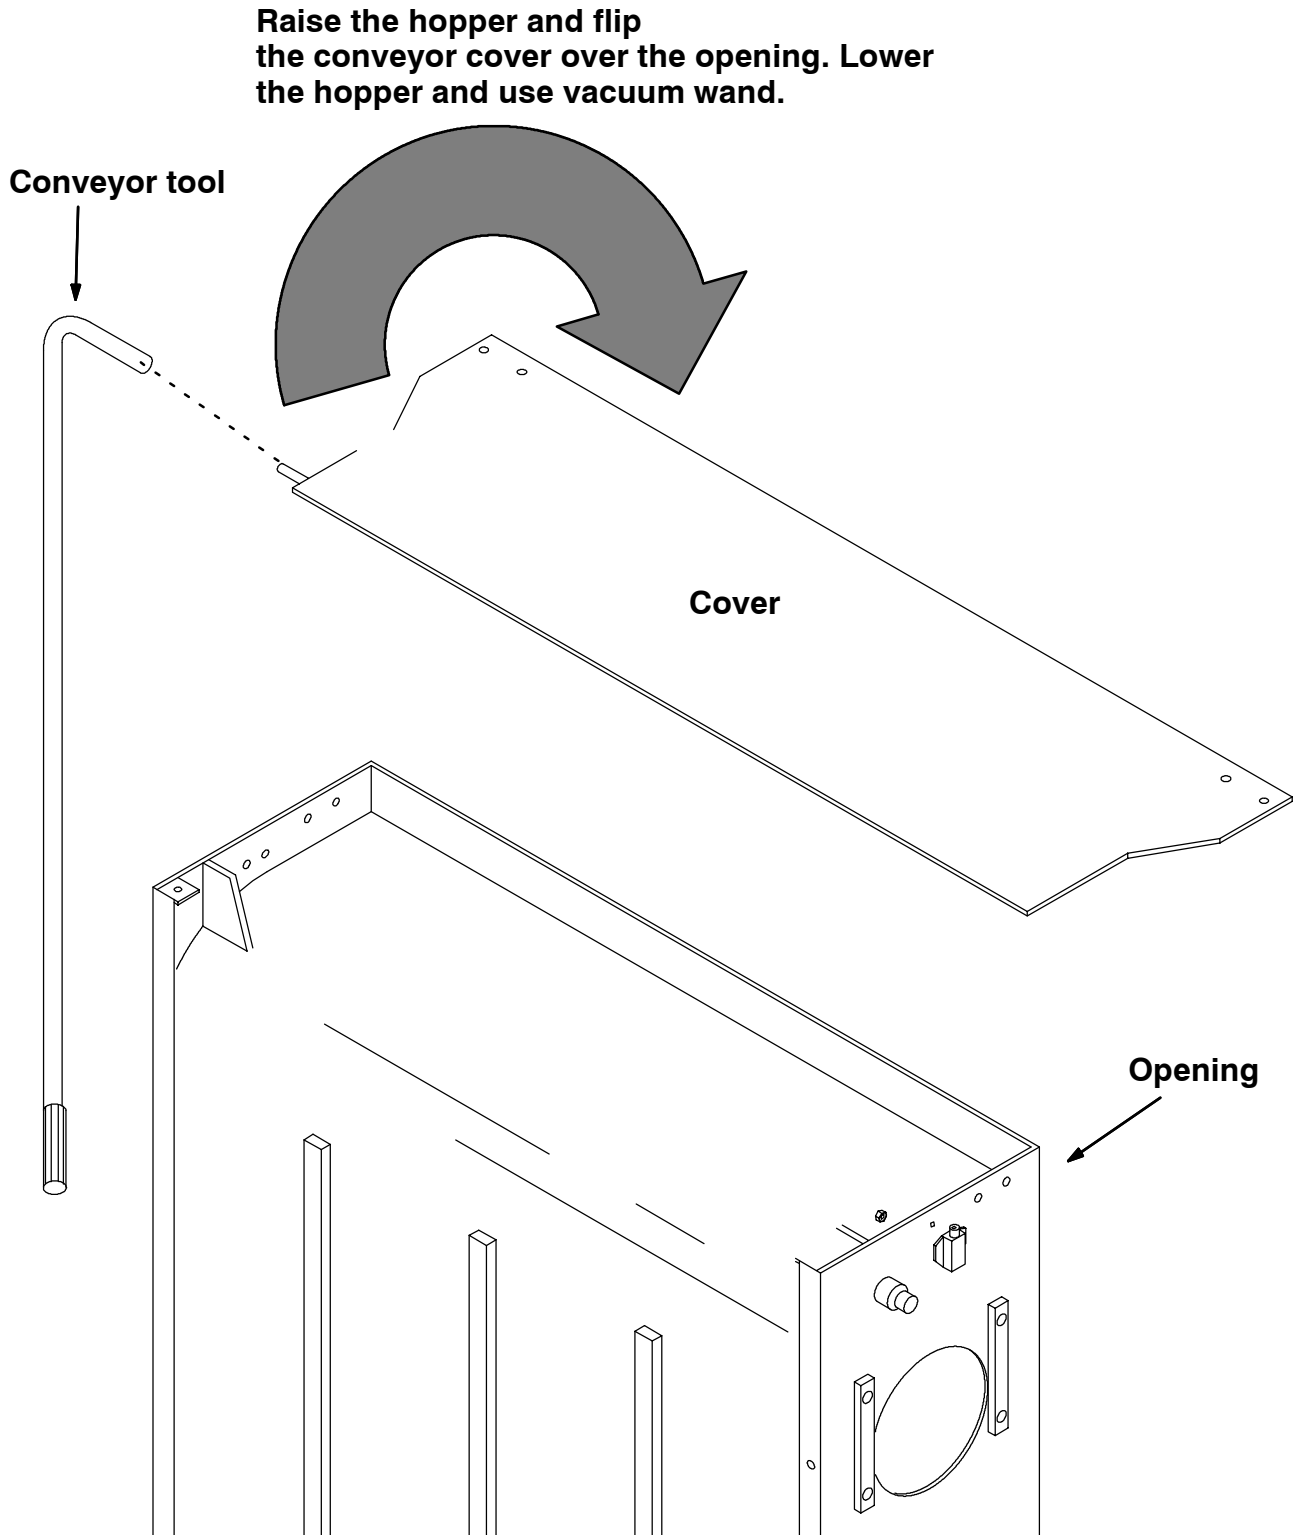

FIG. 5 - Flip The Conveyor Door To Operate Vacuum Wand
7. Use the tool (33) to flip the conveyor door over the opening of the conveyor assemble. (Refer to Fig. 5)